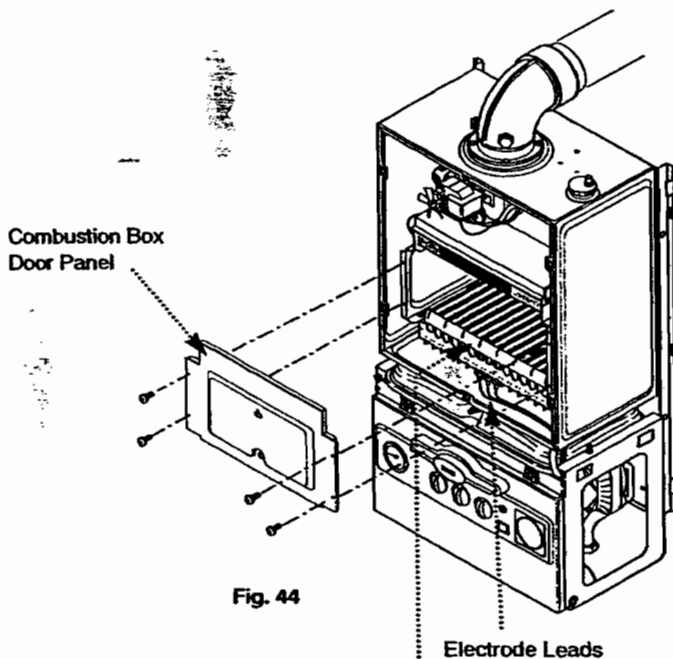

Fig. 44
7. Undo the four screws securing the combustion box door and remove the door (Fig. 44).
10. Remove the electrode leads from the electrodes (noting their positions) and withdraw the burner (Figs 44 & 45).